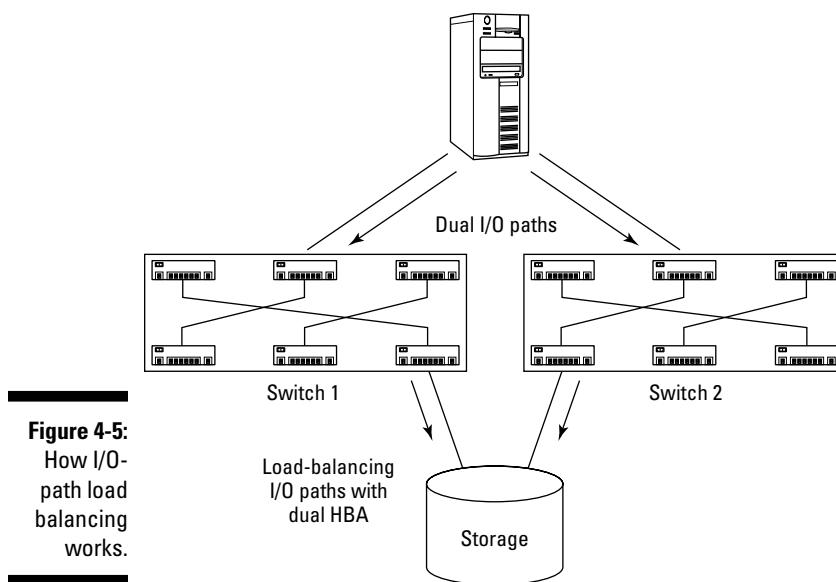

Figure 4-5:
- **Load balancing** is the capability to use more than one HBA in the server to balance the input/output (I/O) load to your disks. (See Figure 4-5.)